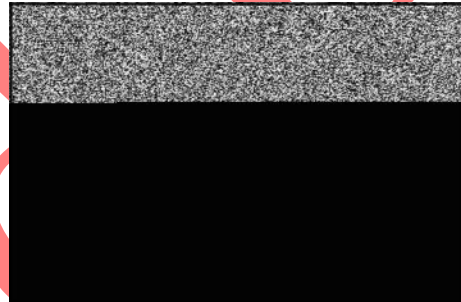

Figure 3
1. Inspect crankshaft for scoring on mag journal (A, Figure 3), crankpin journal (B), and PTO journal (C). Replace crankshaft if scoring is found or if crankshaft is bent. DO NOT attempt to straighten bent crankshafts.